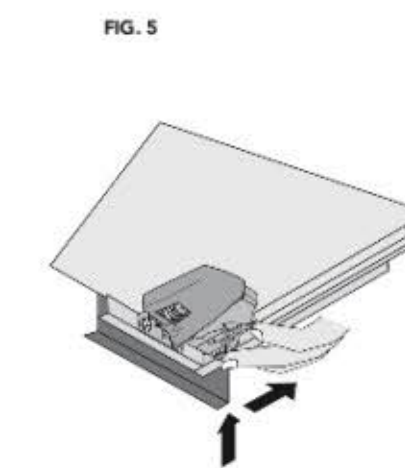

FIG. 5
- 5) See (Fig. 5 and 5A) for tilt and height adjustment.